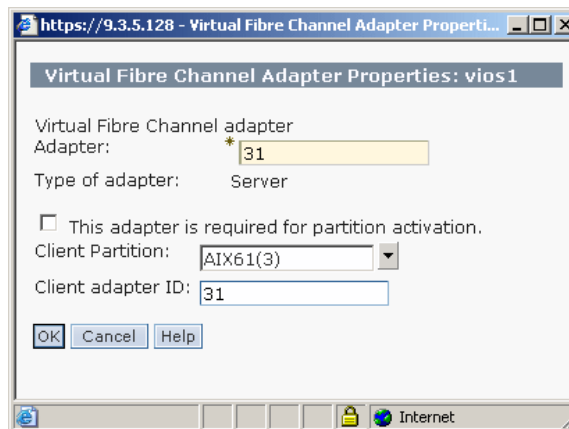

Figure 2-31 Set virtual adapter ID
- d. Enter the virtual slot number for the virtual Fibre Channel server adapter, select Client Partition to which the adapter may be assigned to, and enter the Client adapter ID as shown in Figure 2-31. and click **OK**.